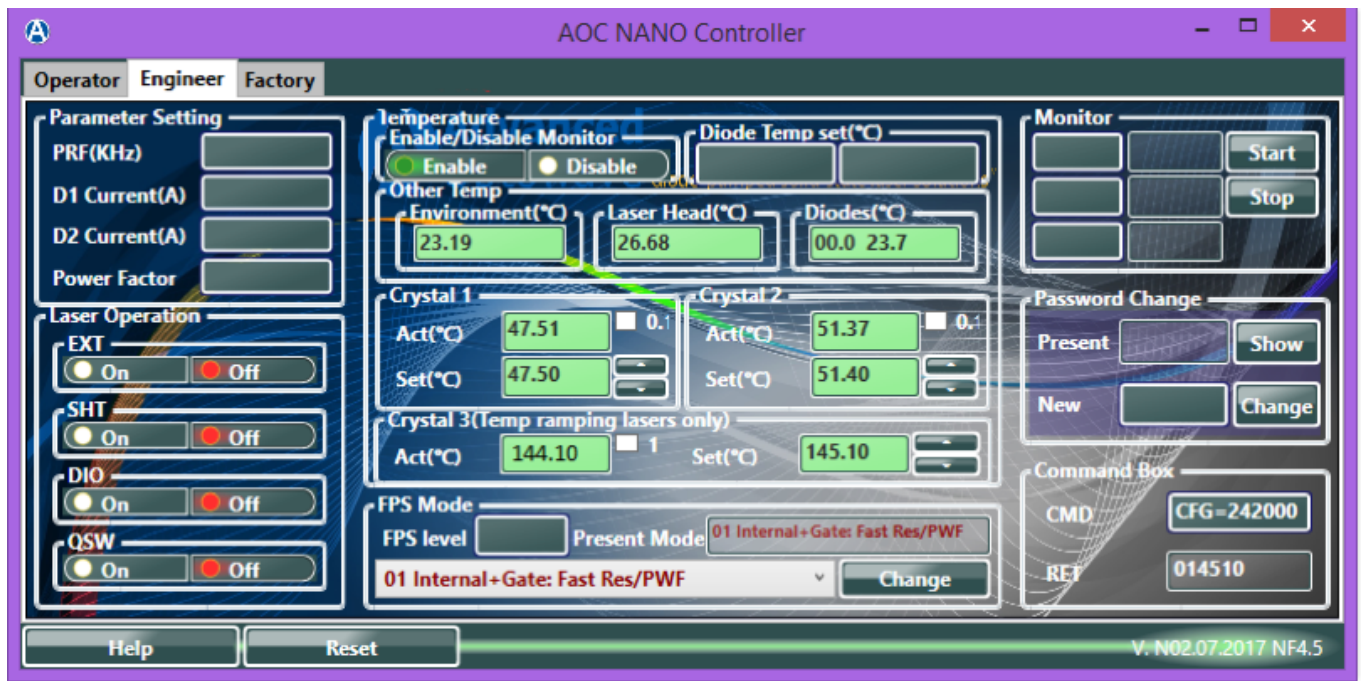

Figure 17: Advanced Optowave Graphical User Interface – GUI Engineer Tab
4.5.2 Engineer Window Section Definitions – (Figure 17)